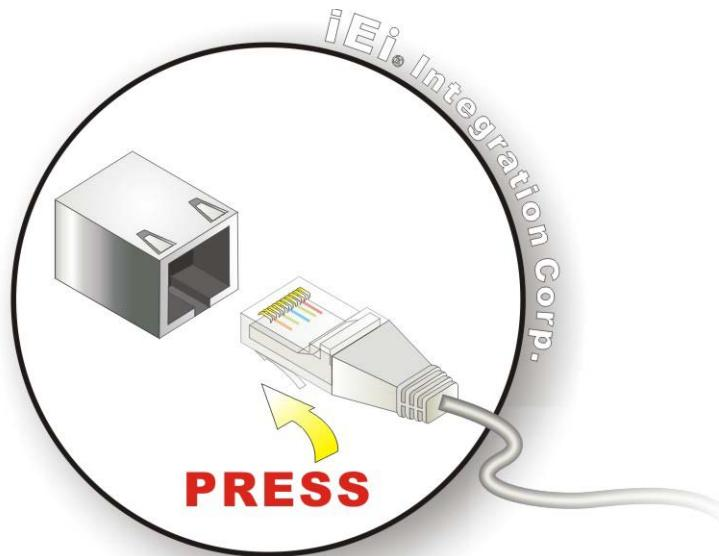

Figure 4-6: LAN Connection
Step 2: Align the connector. Align the RJ-45 connector on the LAN cable with the RJ-45 connectors on the HYPER-KBN. See **Figure 4-6.**